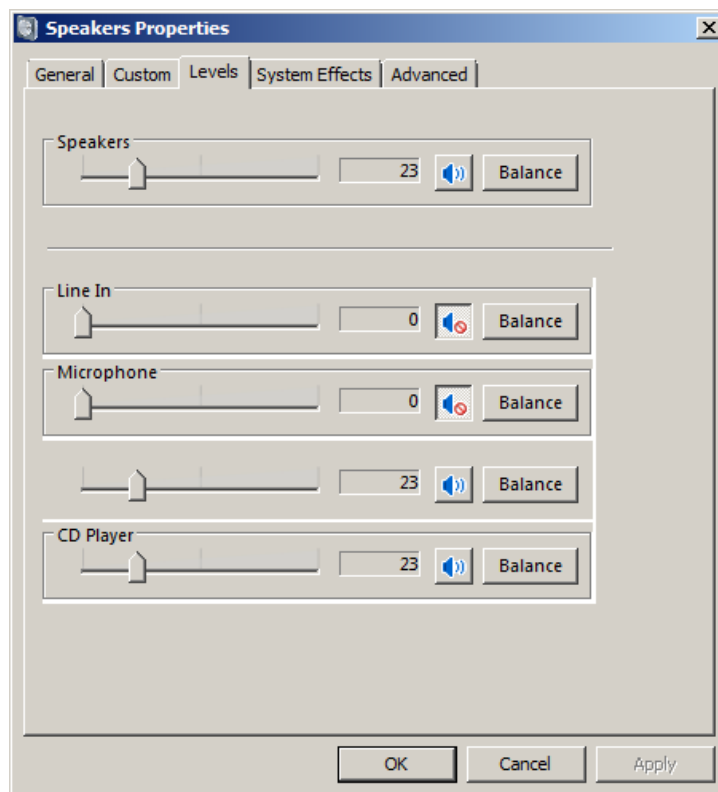

Figure 2.8 Playback channel properties – Output levels
- 3) Click on the tab '**Levels**' to open the output mixer (as in Fig. 2.8). Then mute Line In and Mic channels, if exist.